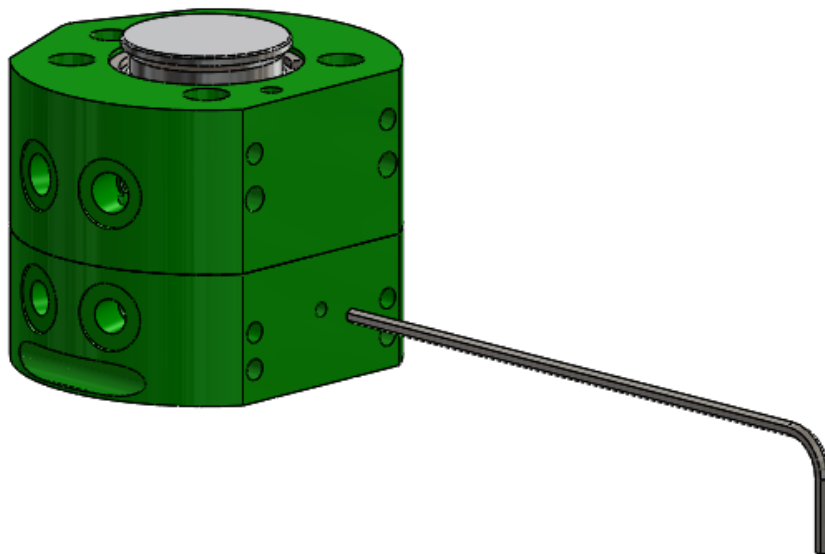

Figure 7.4-1. Manual Uncouple Feature
4. Insert a 1.5mm Allen wrench (alternatively, a 1.5mm punch may be used) as shown in Figure 7.4-1. This requires any tool side modules to be removed.